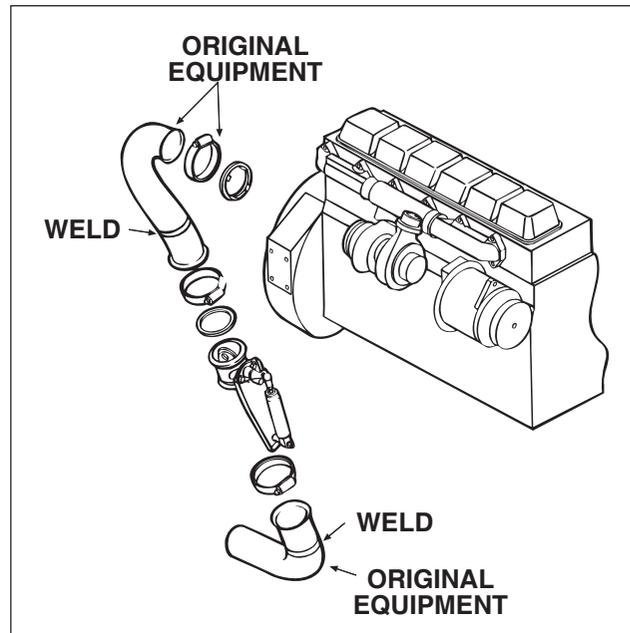

FIG. 3
2. Select a location in the exhaust pipe for the E Brake. Locate the E Brake between the muffler and turbocharger. The E Brake should be as close to the turbocharger as possible while maintaining a minimum distance of 8" from the turbocharger. Where possible, mount the E Brake in a near vertical orientation with the E Brake air cylinder facing the front of the vehicle. This will ensure a flow of air over the cylinder (see Figure 3).